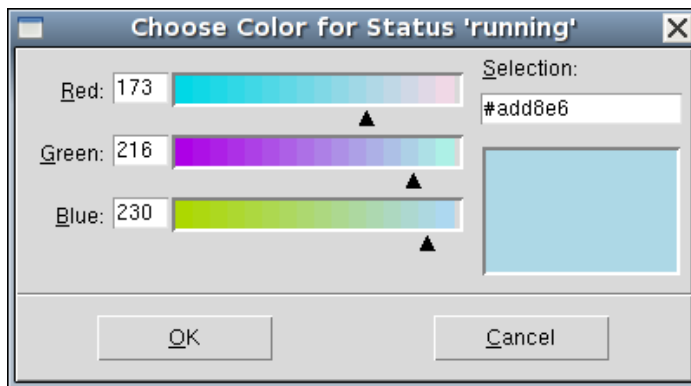

Figure 18 Choose Color for Status dialog box for changing the color of a node status
- Select the color from the Choose Color for Status dialog box, and click **OK** (see Figure 18).